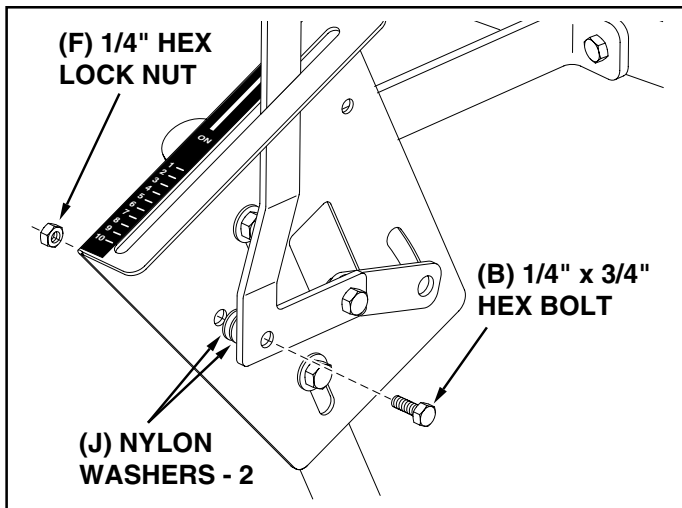

FIGURE 8
- Assemble the flow control arm to the flow control mounting bracket using a 1/4" x 3/4" hex bolt (D), two nylon washers (J) and a 1/4" hex lock nut (F). **Tighten carefully.** The flow control arm should be snug but should pivot with no more than slight resistance. See figure 8.